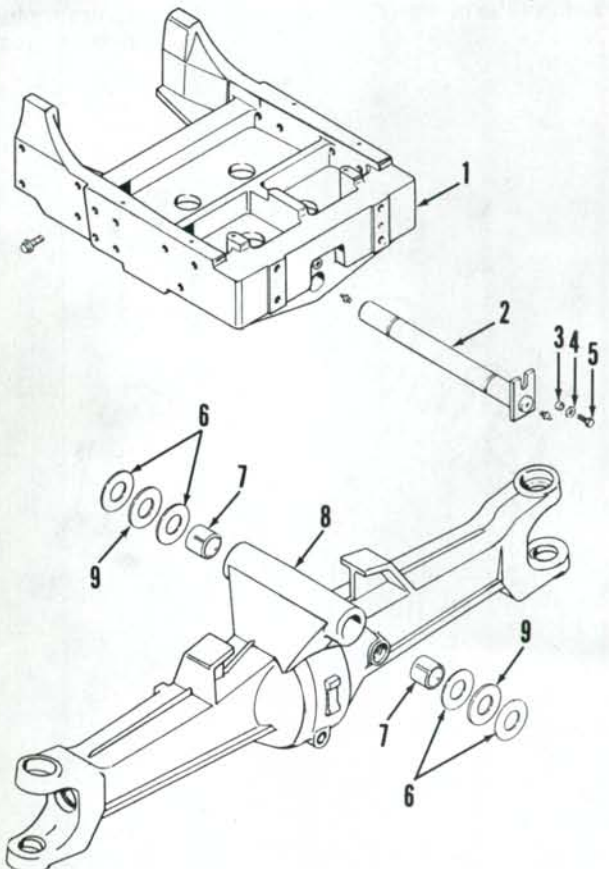

Fig. 18—Front support and axle housing used on Model 2294 equipped with ZF front drive axle.
18. REMOVE AND REINSTALL. To remove the front drive axle assembly, place transmission in PARK and securely block rear wheels. Unbolt and remove drive shaft shield and the front drive shaft assembly. Disconnect steering cylinder lines and cap or plug all openings. Loosen front wheel to hub nuts on both wheels. Install a side frame jack CAS-10500-1 or front split stand CAS-10749 on each side of tractor. Raise front of tractor until front wheels are off the ground. Remove wheel nuts and using a hoist, remove front wheels. Place a floor jack or special axle carrier CAS-10500-4 under front axle. Remove cap screw (5—Fig. 18), washer (4) and spacer (3). Then, remove pivot shaft (2) and thrust washers (6 and 9). Lower ax-
To remove front support (1—Fig. 18), disconnect headlight wiring, then remove hood, grille and side panels. Remove radiator as outlined in paragraph 90. Attach a hoist to front support, then unbolt and remove.